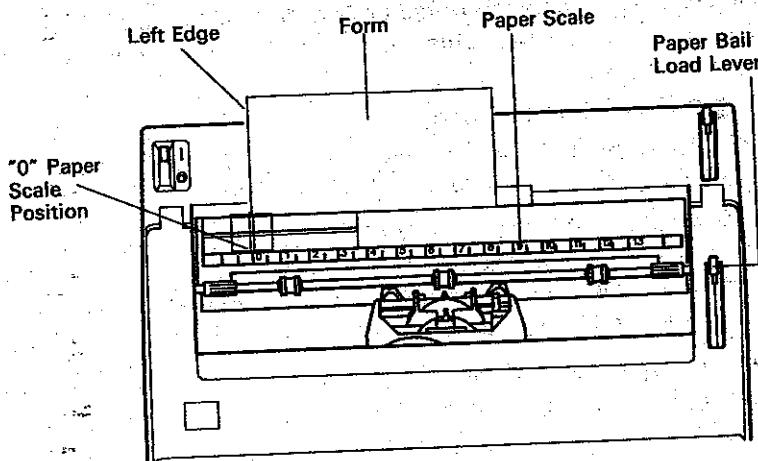

Figure 4-1.
1. Place the left edge of the form in the typewriter at the **0 paper scale position.** (See Figure 4-1.)